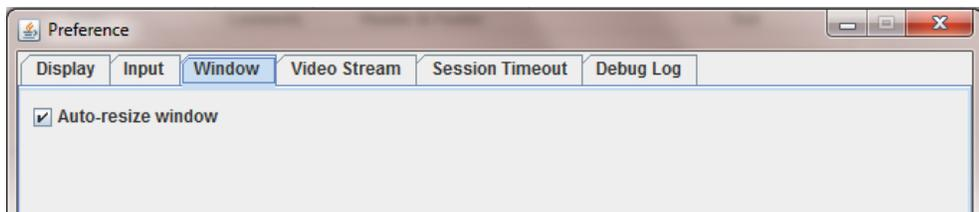

Figure 27. Remote Console Window Settings
- **Window** (Figure 27) – Enable or disable window auto-resize.